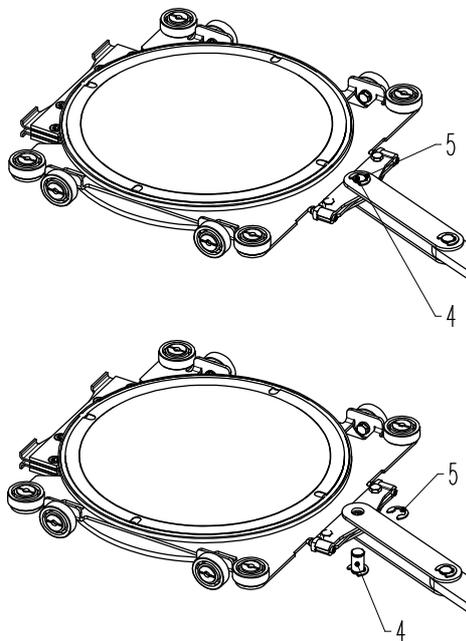

Figure 7-3
7. Remove locking ring (5) according to «Figure 7-3» on page 18.
8. Withdraw bolt (4) by pulling it downwards according to «Figure 7-3» on page 18.
11. Mount bolt (4) according to «Figure 7-3» on page 18.
12. Mount locking ring (5) according to «Figure 7-3» on page 18.